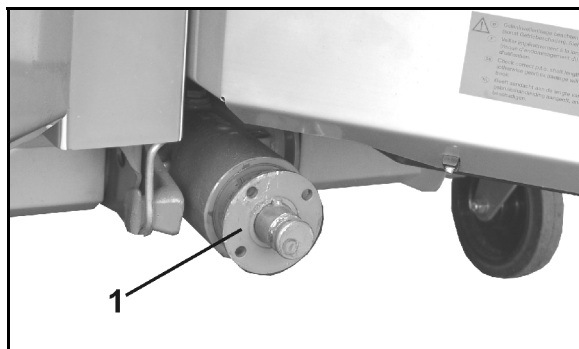

Fig. 36
1. Use an extractor to pull the flange bushing (Fig. 36/1) from the gearbox input shaft.